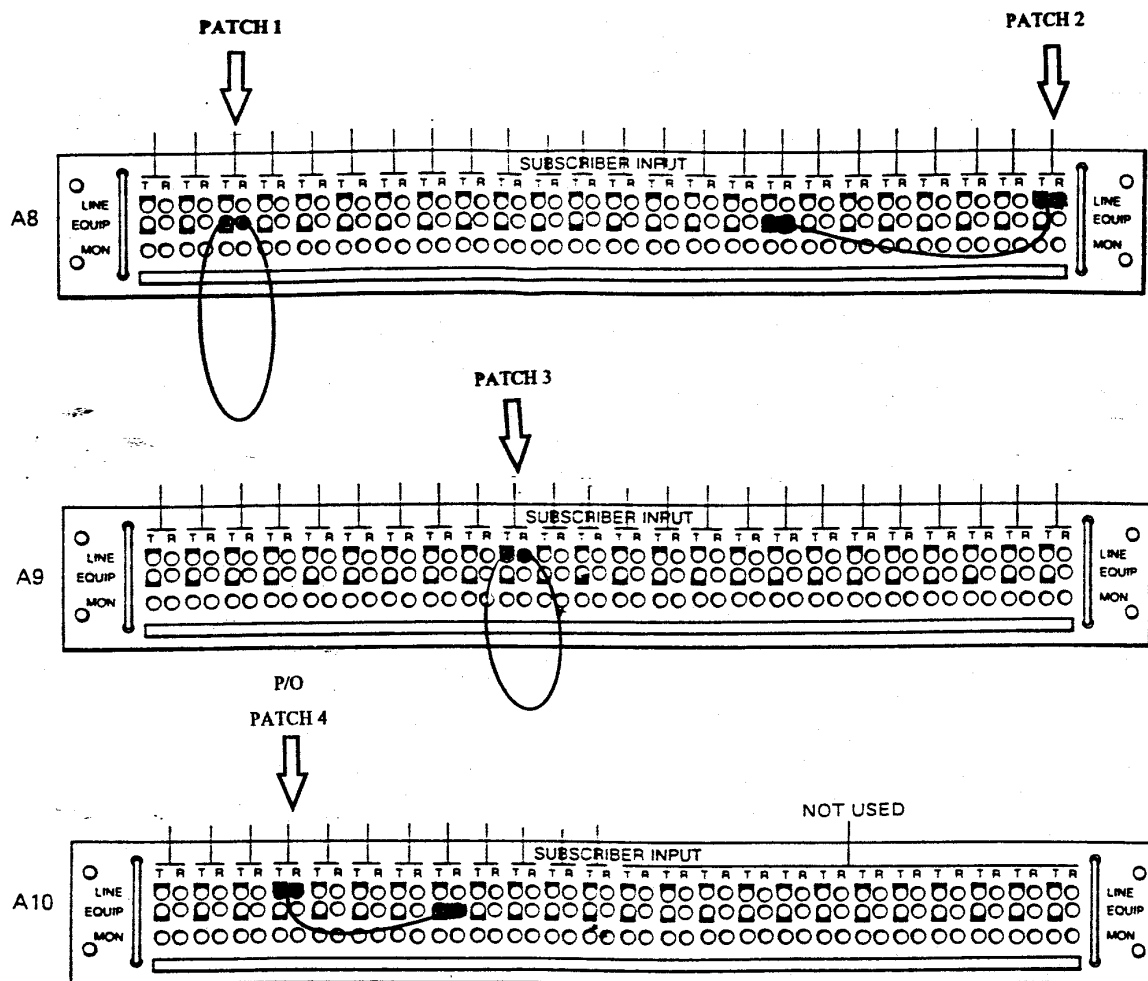

FIGURE 2.
- C. Figure 2: A9.
- D. Figure 2: Patch 1.
- E. Figure 2: Patch 2.
- F. Figure 2: Patch 3.
- G. Figure 2 & 4: Patch 4.